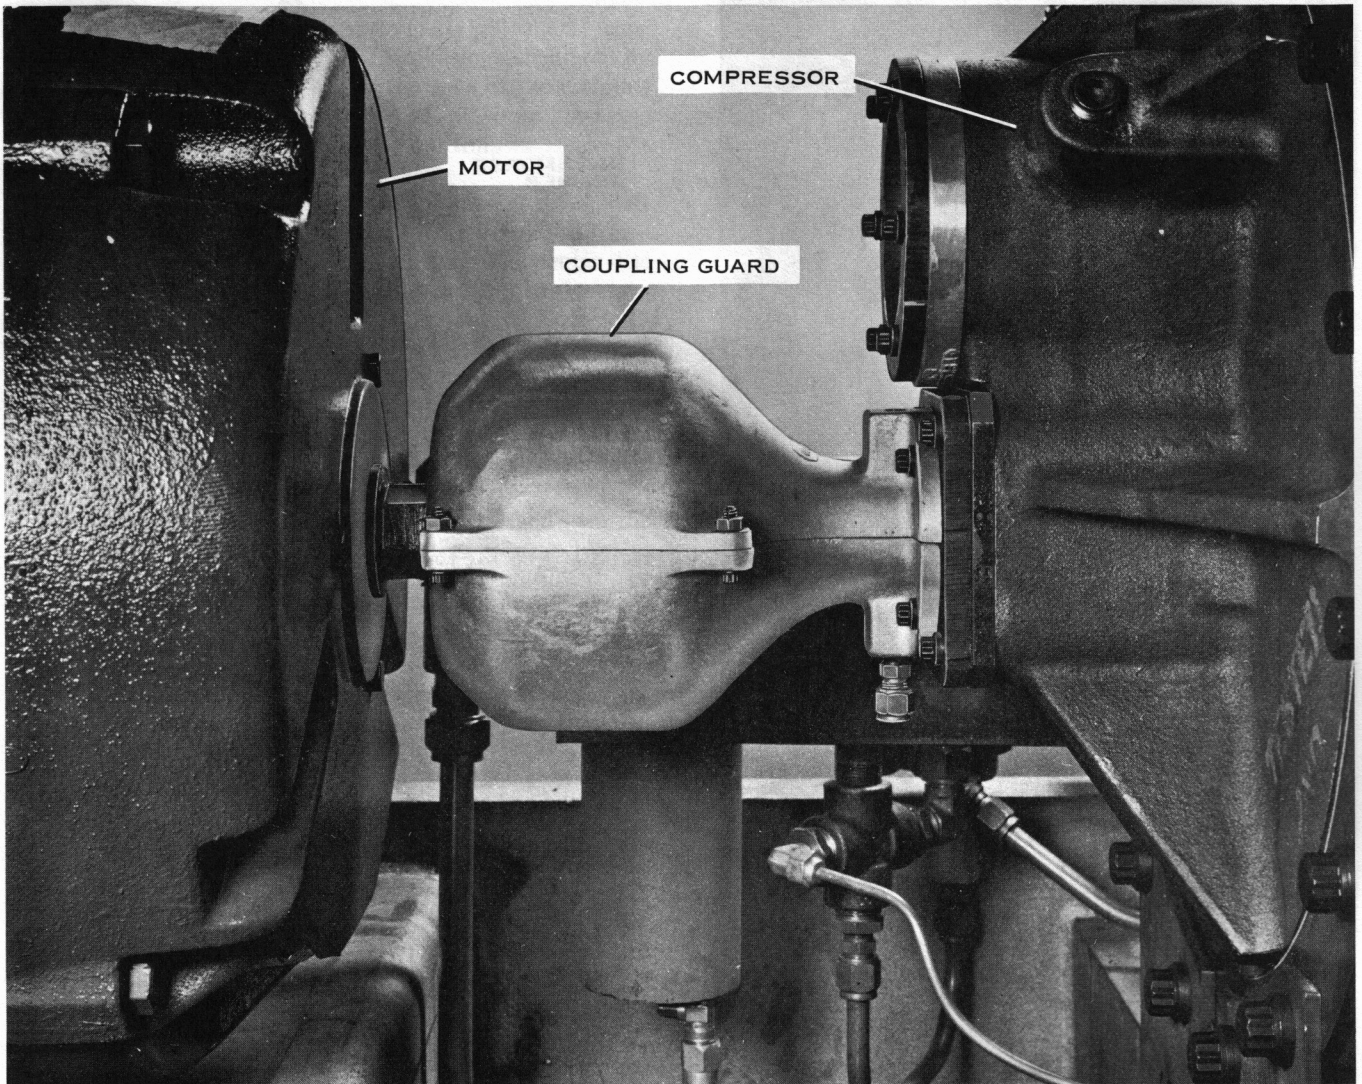

FIG. 16— COUPLING GUARD INSTALLED
20. Install coupling guard. (See Fig. 16)